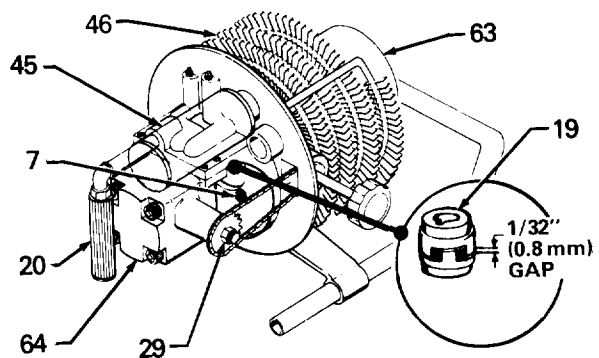

Fig 11
4. Remove the eight screws (4), washers (3) and nuts (2) holding the reservoir mounting. Raise the unit high enough for the reservoir (66) to clear, then pull the reservoir down off the unit and pour out the hydraulic fluid. Carefully lower the unit and tilt it back until the arms of the support mounting (44) are resting on the floor. Put the cart handle (75) through the arms with the bent part facing up, to support the unit. See Fig 11. Hold the hook on the switch box as you lower the unit to make sure it doesn't slip off.
5. Remove the four electric motor mounting screws (7), hold the motor (63) by the shaft and switch box (65), then rock it from side to side to free it from the support mounting, and carefully pull it out of the cooling coils (46). See Fig 11.